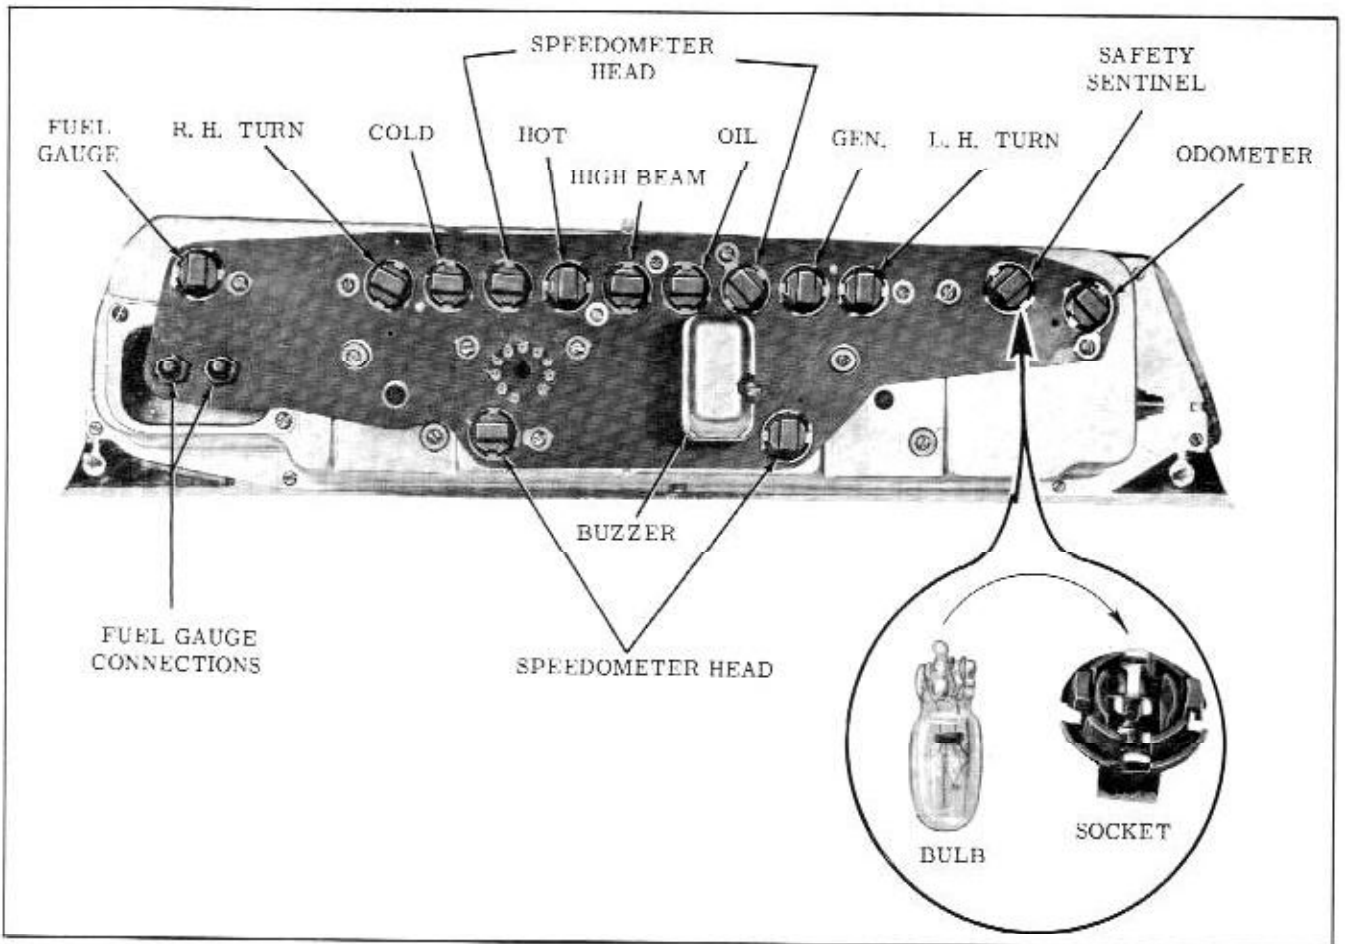

Fig. 13-2 Location of Instrument Lights
When removing an instrument panel light bulb, the bulb must be pulled straight out of the socket. (Refer to inset Fig. 13-2) Before installation of the bulb into the socket, be sure bulb wires are parallel with the center line of the bulb to prevent a short or open circuit.
4. Remove the speedometer head to case attaching screws, located at “B” in Fig. 13-2, and remove the speedometer head from the housing.